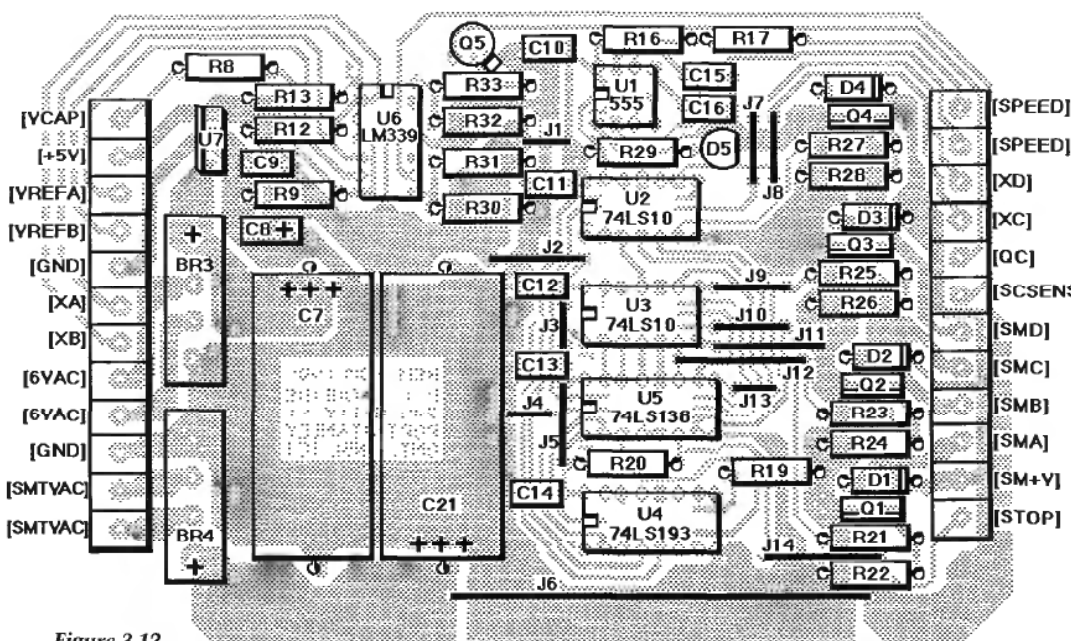
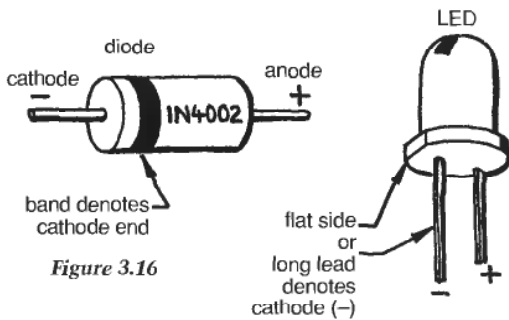
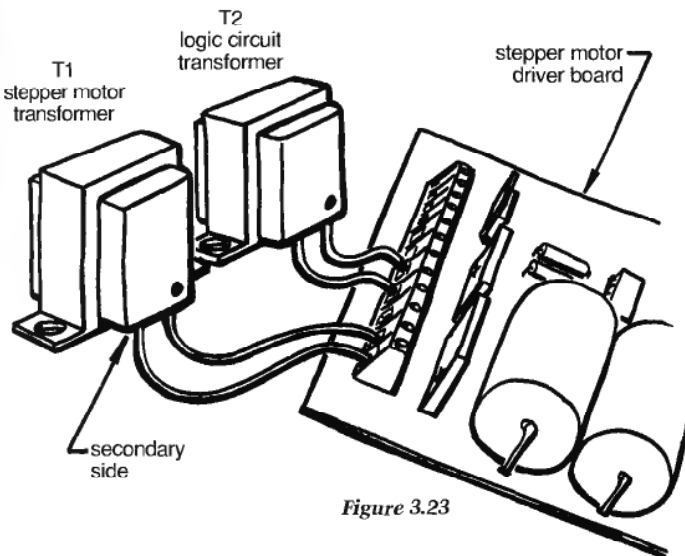

Figure 3.12
Figure 3.16
Figure 3.23
Refer to the parts layout (Figure 3.12) to determine which holes are for what when drilling. Do all drilling from the foil side. Figure 3.12 shows the component side.
The pcb has two sides: a foil side on which the soldering is done and a component side (where there is no foil) on which the components are mounted. Anytime the top or the left or whatever of the board is referred to means that the board is oriented as in Figure 3.12 with Q5 at the top and BR3 at the left.
These components are polarized which means they will not work if installed backwards. Look at Figure 3.16 to see how they are polarized and then carefully check Figure 3.12 for the correct orientation.
- U7, LM7805 voltage regulator [+]. Refer to Figure 3.12 for the correct orientation. The metal tab goes to the left. See Figure 3.12 for the correct orientation of Q1 through Q4:
Do not insert the integrated circuits (IC's) until after this test. Items within [] are circuit board terminal block locations (Figure 3.12).
Connect the 6Vac transformer to the two logic board terminal connectors labeled [6VAC] on Figure 3.12.
Connect the stepper motor transformer to the two logic board terminal connectors labeled [SMTVAC] on Figure 3.12 (see also Figure 3.23).